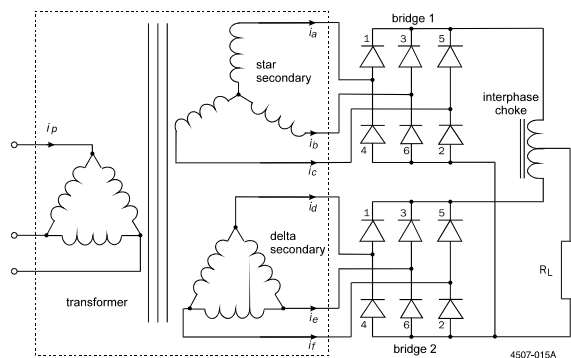

Figure 5: 12 Pulse Bridge Rectifier Configuration
**4. Consider installing a 12-pulse distribution system.** If the power conversion equipment can have its input rectifier split into two bridge rectifiers, and the line voltages to each bridge phase shifted by 30 electrical degrees to each other, an elimination of all harmonics below the 11th will theoretically occur. Figure 5 refers.